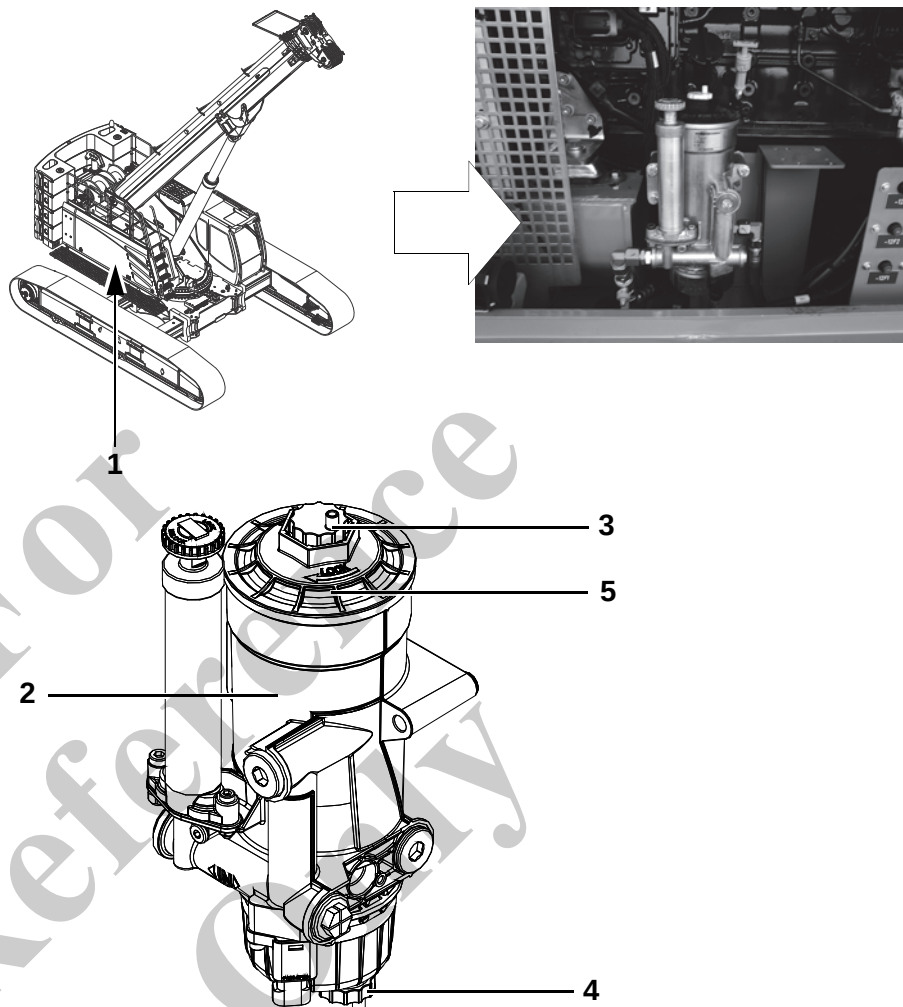

Fig. 14 Position and overview of the diesel prefilter
1	Open the service door (1) in Fig. 14.
2	Place a suitable collecting vessel under the drain valve (4) in Fig. 14 drain valve (5).
3	Open the drain valve (4) Fig. 14.
5	Close the drain valve (4) in Fig. 14.
6	Close the service door (1) in Fig. 14.
2	Place a suitable collecting vessel under the drain valve (5) in Fig. 14 drain valve (5).
- 6 Unscrew the screw cap (5) in Fig. 14 from the housing (2) in Fig. 14 and pull out the filter element attached to it
8	Screw the screw cap (5) in Fig. 14 with the new filter element into the housing (2) in Fig. 14 to the stop. Ensure a tightening torque of 50 Nm.
10	Close the service door (1) in Fig. 14.